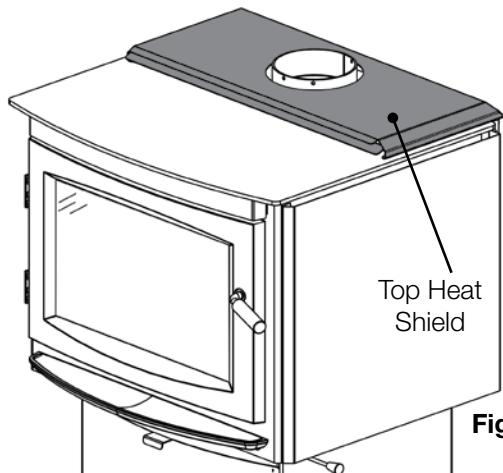

Fig. 2-3
* The top heat shield (T.H.S) may be removed if desired (Fig. 2-3); however, this will increase clearances to combustibles. Please read the above table carefully.
* The top heat shield (T.H.S) may be removed if desired (**Fig. 2-3, previous page**); however, this will increase clearances to combustibles. **Please read the above table carefully.**